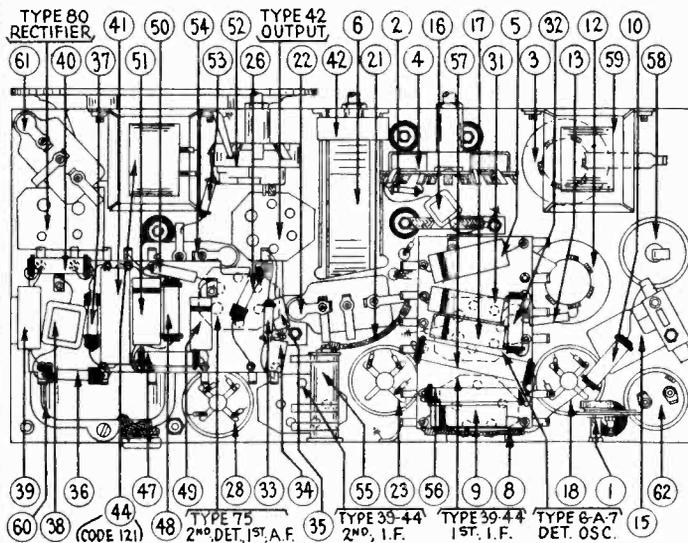

Fig. 4—Bottom View Showing Parts
ADJUSTMENT OF THE WAVE TRAP—Replace the grid clip upon the Detector-Oscillator tube (Type 6A7). Connect the output leads from the signal generator directly to the antenna and ground terminals of the receiver. Set the Wave-Band Switch of the receiver to the standard broadcast band (left hand position) and the Station Selector at the low frequency (540 K.C.) end. Adjust the Wave Trap condenser to give MINIMUM response to a 460 K.C. signal from the signal generator. The Wave Trap ① is located at rear and underneath the chassis, and is shown in Figure 4. It is reached from the rear of the chassis, by inserting the fibre wrench thru the hole near right-hand rear corner of chassis.
Finally set the signal generator at 600, tune in this signal and adjust the oscillator "L. F. condenser", located underneath chassis (⑪ in Fig. 4) to maximum reading. This adjustment is reached thru the hole in top of chassis, between the two electrolytic condensers (left hand end of chassis when facing rear).